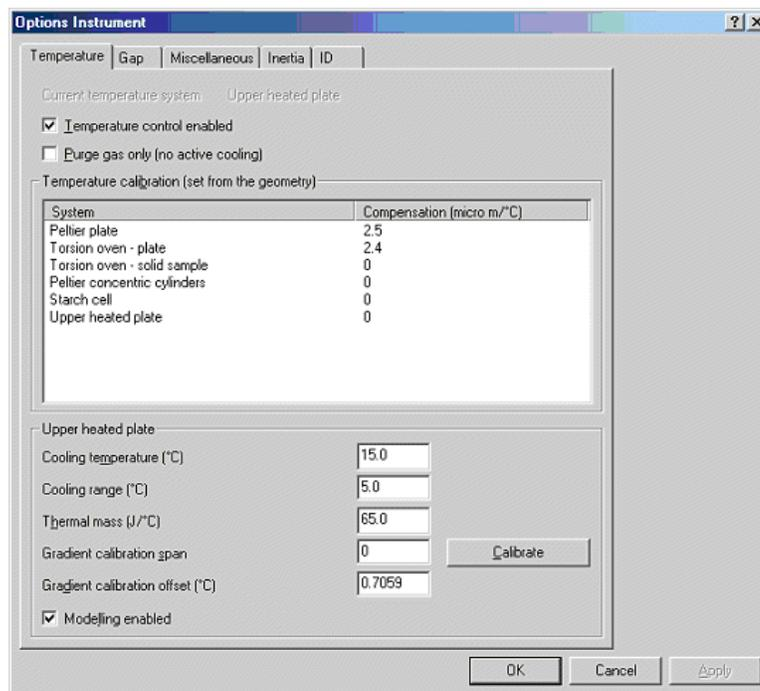

Figure 7.15
1. Under the **Options** menu click **Instrument** and then the **Temperature** tab. The window, shown in Figure 7.15 on the previous page, will be displayed.